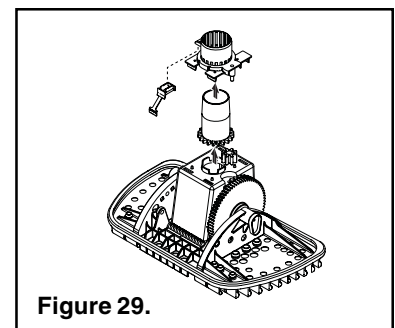

Figure 29.
5. Squeeze the latching tabs and pull up on the Swivel Housing and Swivel. The assembly will come up, releasing the Swivel Sprocket. Squeeze the latching tabs to remove the Clutch Clip, (see Figure 29).